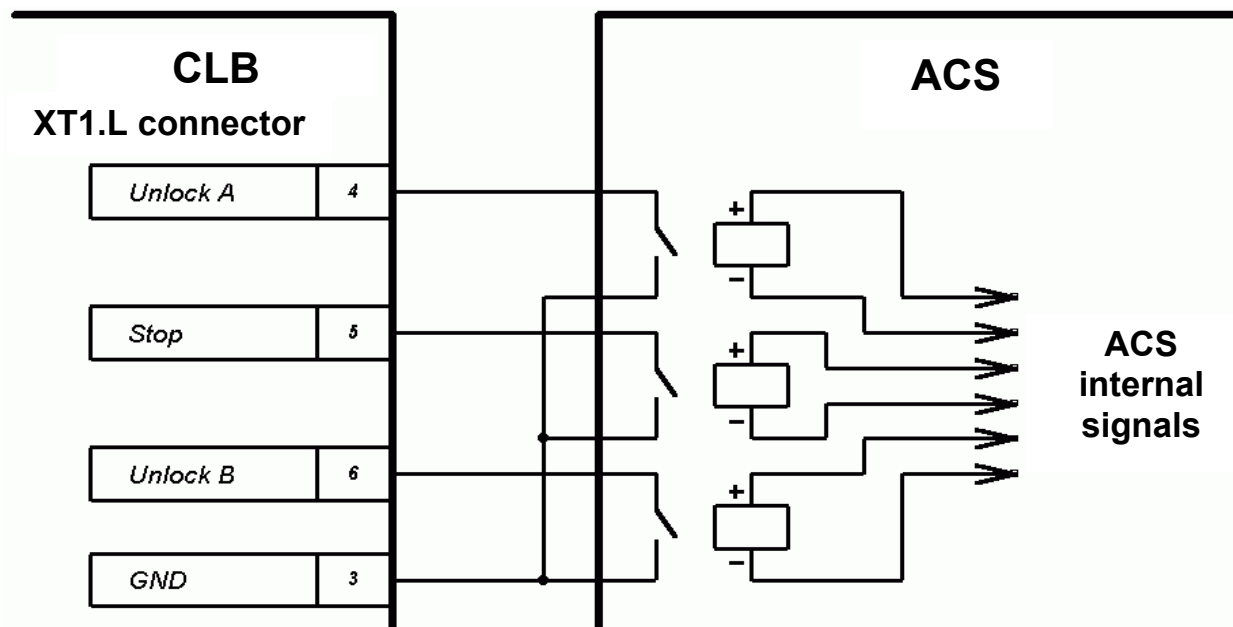
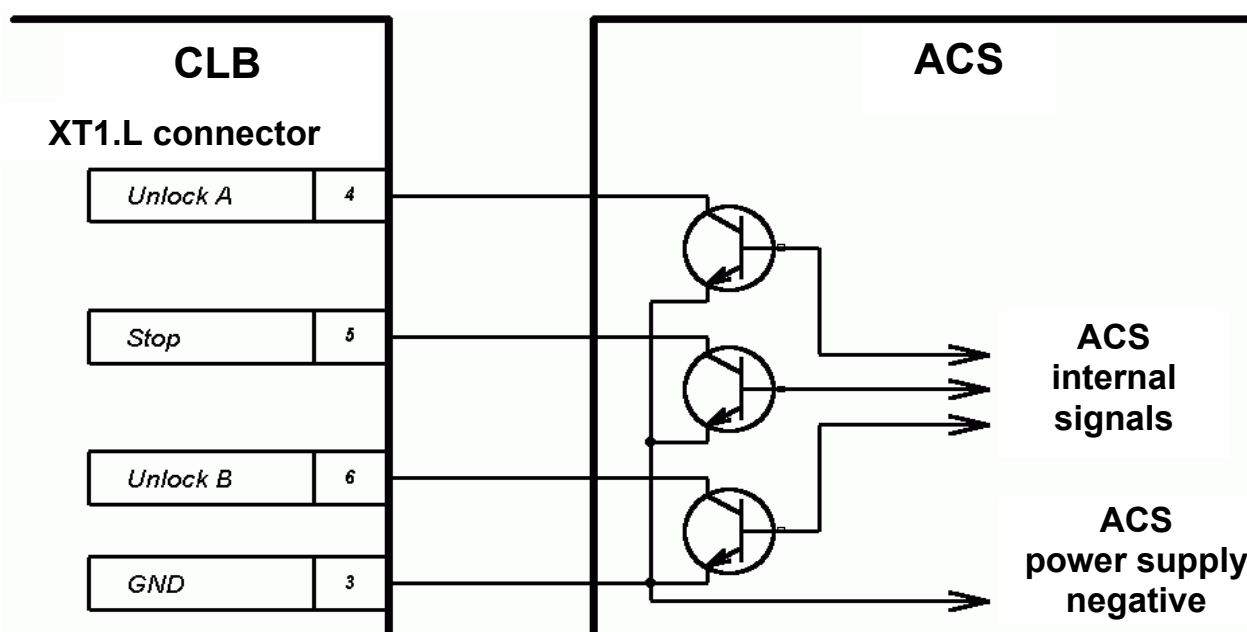

Fig. 4. ACS control element — normally open relay contact
Fig. 5. ACS control element — circuit with open-collector output
5.4.2 The turnstile is operated by input of a low-level signal to the “XT1.L” connector block contacts “Unlock A”, “Unlock B” and “Stop” relatively to the “GND” contact. As the control element there can be used a normally open relay contact or a circuit with open collector output at that. At the emergency the turnstile control is carried out by removing of a low-level signal from the “Fire Alarm” contact relatively to the “GND” contact. As the control element there can be used a normally closed relay contact or a circuit with open collector output at that (Fig. 4 and Fig. 5).